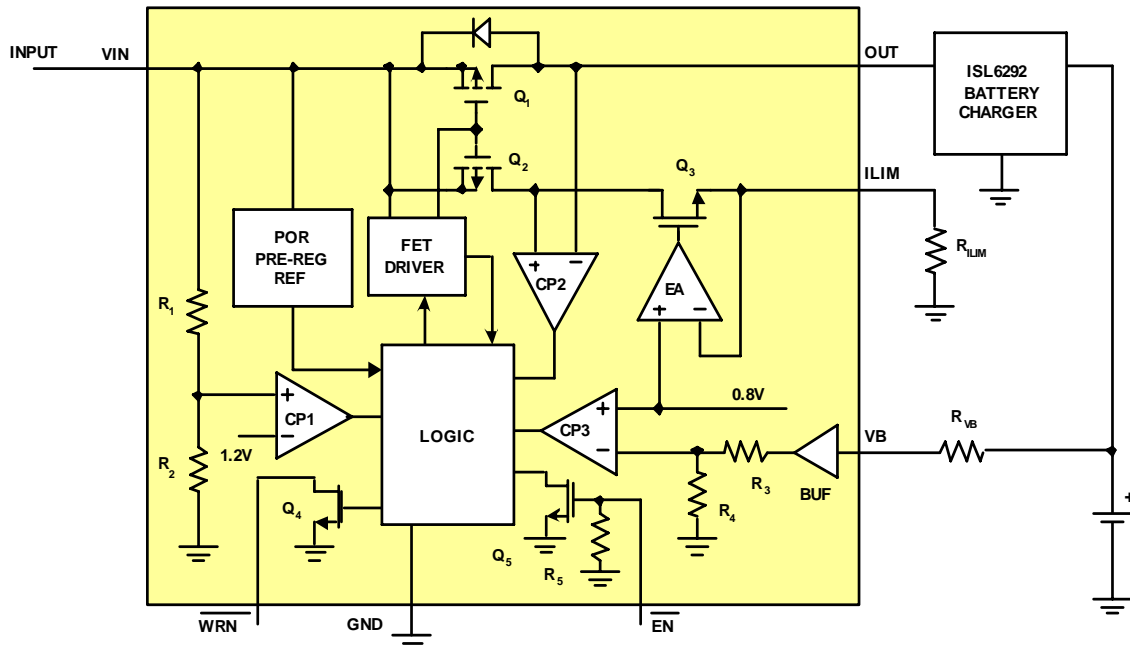
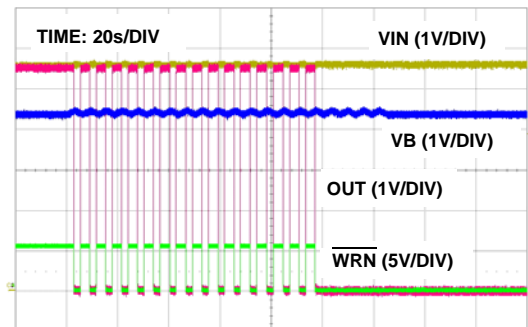

FIGURE 1. BLOCK DIAGRAM
FIGURE 7. BATTERY OVERVOLTAGE PROTECTION. THE IC IS LATCHED OFF AFTER 16 COUNTS OF PROTECTION. VB VOLTAGE VARIES BETWEEN 4.3V TO 4.5V
The input voltage is monitored by the comparator CP1 in the Block Diagram (Figure 1). CP1 has an accurate reference of 1.2V from the bandgap reference. The OVP threshold is set by the resistive divider consisting of R_1 and R_2 . The protection threshold is set to 6.8V. When the input voltage
The battery voltage OVP is realized with the VB pin. The comparator CP3, as shown in Figure 1, monitors the VB pin and issues an overvoltage signal when the battery voltage exceeds the 4.4V battery OVP threshold. The threshold has 75mV built-in hysteresis. The comparator CP3 has a built-in 180μs blanking time to prevent any transient voltage from triggering the OVP. If the OVP situation still exists after the blanking time, the power PFET is turned off. The control logic contains a 4-bit binary counter that if the battery overvoltage event occurs 16 times, the power PFET is turned off permanently, as shown in Figure 7. Recycling the input power or toggling the enable (EN) input will reset the counter and restart the ISL9212.
The current in the power PFET is limited to prevent charging the battery with an excessive current. The current is sensed using the voltage drop across the power FET after the FET is turned on. The reference of the OCP is generated using a sensing FET (Q_2), as shown in Figure 1. The current in the sensing FET is forced to the value programmed by the ILIM pin. The size of the power FET (Q_1) is 31,250 times the size of the sensing FET. Therefore, when the current in the power FET is 31,250 times the current in the sensing FET, the drain voltage of the power FET falls below that of the sensing FET. The comparator CP2 then outputs a signal to turn off the power FET.